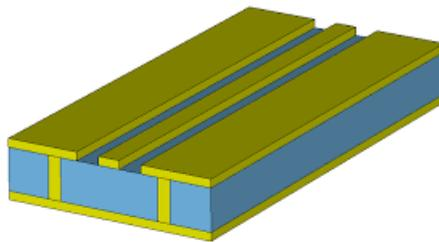

Figure 12 A drawing of a coplanar waveguide configuration.
Lastly, a coplanar waveguide uses a single conducting track printed onto a dielectric substrate with a pair of return conductors on either side of the track (Figure 12). Like a microstrip configuration, coplanar waveguides can have active devices mounted on top of the circuit, although this configuration will generally not be as compact as a microstrip. Additionally, since a coplanar waveguide does not have parasitic discontinuities in the ground plane, this configuration can provide an extremely high frequency response of 100 GHz or more. This makes coplanar waveguides a good fit for monolithic microwave integrated circuit (MMIC) integrated circuit (IC) devices that operate at microwave frequencies.